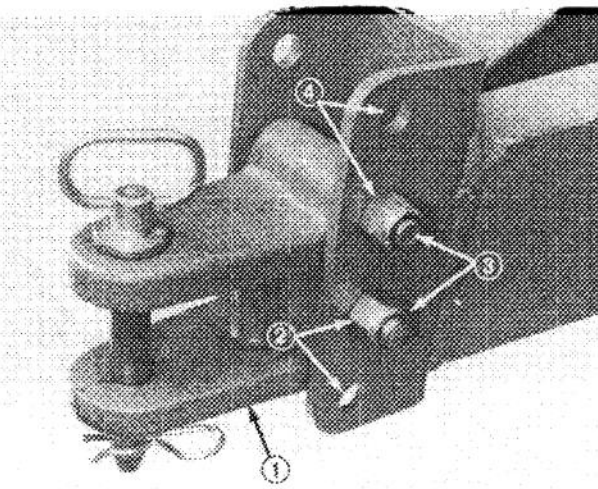

Figure 4
2. Adjust transport frame hitch up or down according to measurement of tractor hitch. Use appropriate mounting holes as shown in chart below and in Fig. 4.